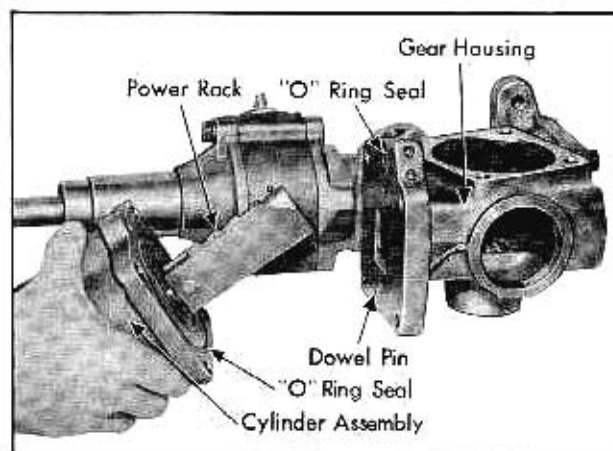

Fig. 7-36 Installing Cylinder Assembly
8. Install a new "O" ring seal on face of adapter and a small seal around oil passage in gear housing. Fig. 7-36.
housing, with dowel hole in adapter over dowel pin in housing. Be certain that "O" ring seals are in position, Fig. 7-36.